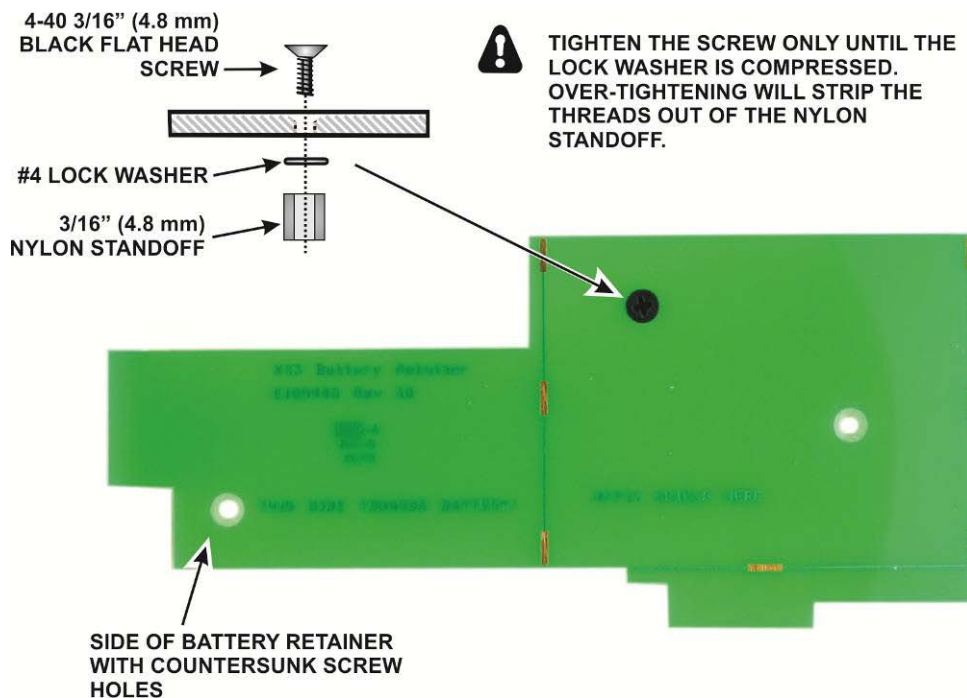
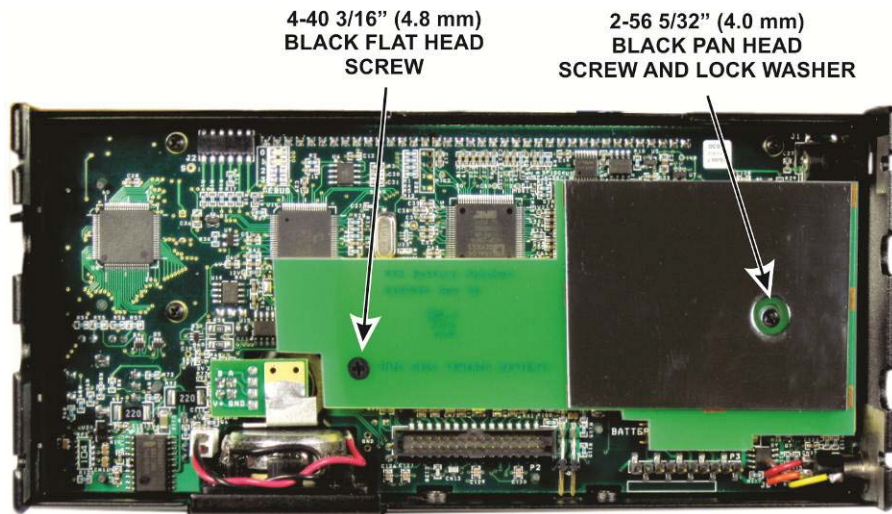

Figure 25. Mounting Nylon Standoff on the Battery Retainer.
Figure 27. Installing the Battery Retainer.
Mount the nylon standoff on the battery retainer as shown in Figure 25. Be sure you place it in the correct location with the head on the lettered side of the retainer. The hole for the screw is countersunk on that side as well.
□ Mount the battery retainer on the two standoffs on the CP board as shown in Figure 27. Note that the nylon standoff you installed on the retainer earlier (Figure 25) simply rests against the CP board.